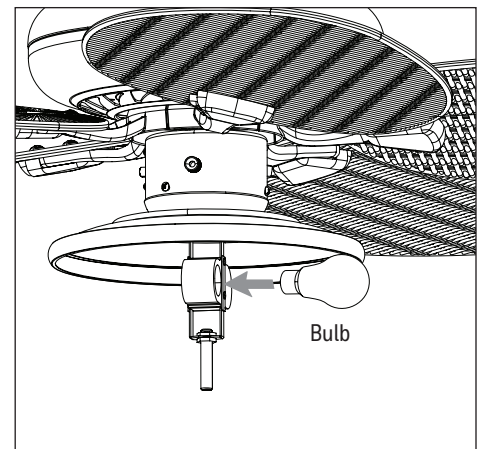

Figure 5.9
- Install the two E26-base LED bulbs (Figure 5.9).